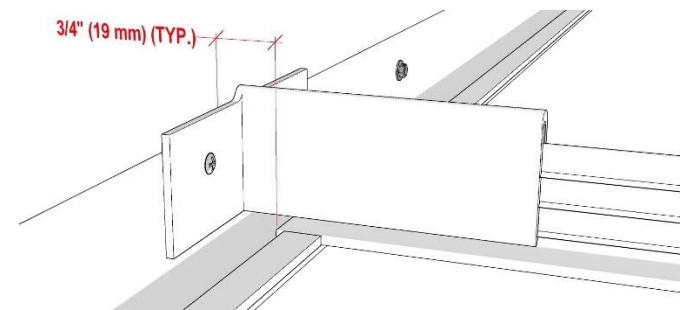

FIG. 32
4. The opposite end of the **Mainrails** and **Crossrails** will have the same **Seismic T-Junction** installation as above except in a four-sided room the ceiling grid must be fixed to two adjacent walls, and each opposing wall must allow for seismic movement of no less than 3/4" (19mm). This layout methodology holds true to irregular shaped rooms also. **FIG 32**